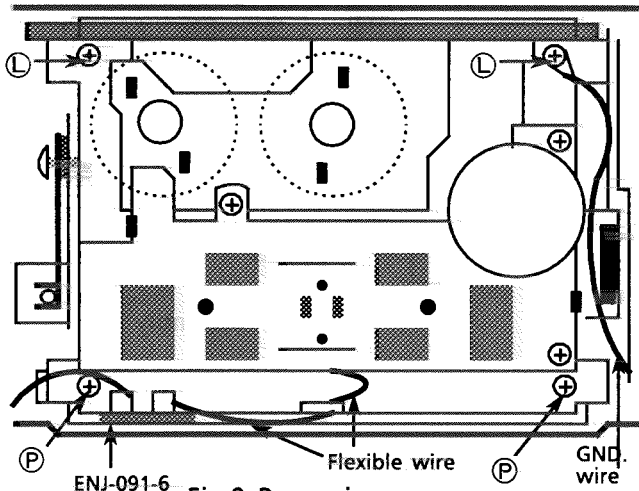

Fig.9 Rear view
5. Remove the 2 screws ② and 2 screws ③.(Fig.9)